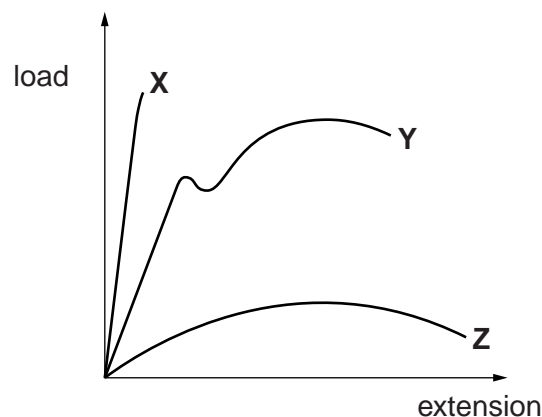

Fig. 4
- 6 Fig. 4 shows the load/extension diagram for three different materials.
- (a) Describe the specific information that can be obtained from Fig. 4 about materials **X, Y** and **Z**. [6]